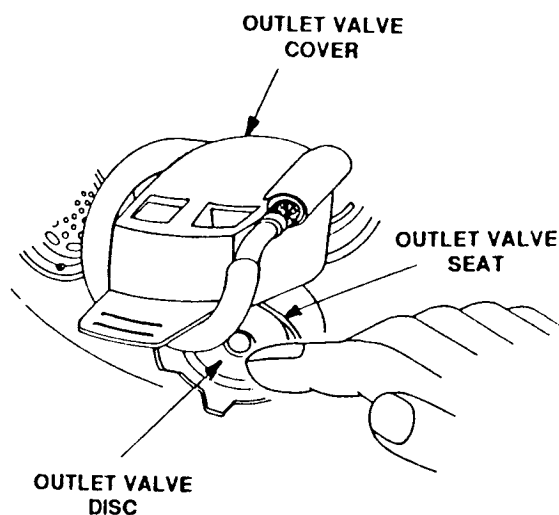

Figure 4-6. Freeing Stuck Outlet Valve Disc
- b. If outlet valve disc sticks to valve seat, place finger against the center of the outlet valve cover. Depress cover inward to make contact with disc. Move finger in a circular motion while exhaling slowly. IF this does not free disc, pull up the outlet valve cover. Massage disc lightly with one finger while exhaling slowly (Figure 4-6). Massage until valve disc functions properly.